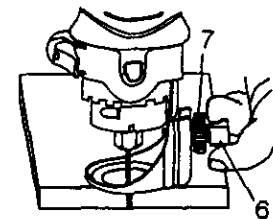

Fig. 5
1. Adjust freehand cutting guide depth by loosening the depth gauge locking knob (6) and rotating the adjusting knob (7) to move the cutting guide in or out as required (see Fig. 5).
4. Adjust depth of freehand cutting guide as shown in Fig. 5.
2. Adjust cutting bit depth to $\frac{1}{8}$ " longer than the thickness of the material being cut (see Fig. 5).